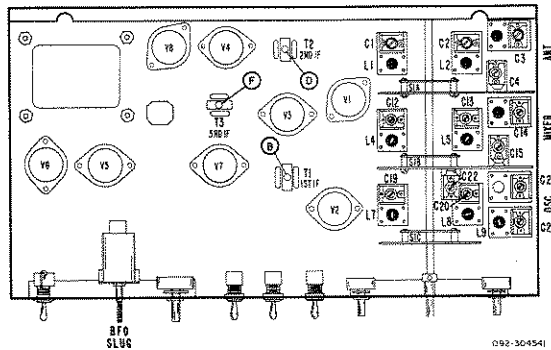

Figure 7. Bottom View Chassis Tube Locations and Alignment Points.
This receiver has been carefully aligned at the factory by specially trained personnel using precision equipment. Alignment of the receiver should not be attempted until all other possible causes of faulty operation have been investigated. Alignment should not be required unless the receiver has been tampered with or component parts have been replaced in the RF or IF stages. Alignment should only be made by persons familiar with communications receivers and experienced in their alignment. Refer to Figs. 7 and 8 for location of all alignment adjustments.
4. BAND SELECTOR SWITCH S-1 SHOWN IN BAND 4 POSITION. FOR LOCATION OF SWITCH SECTIONS, SEE FIG. 7.